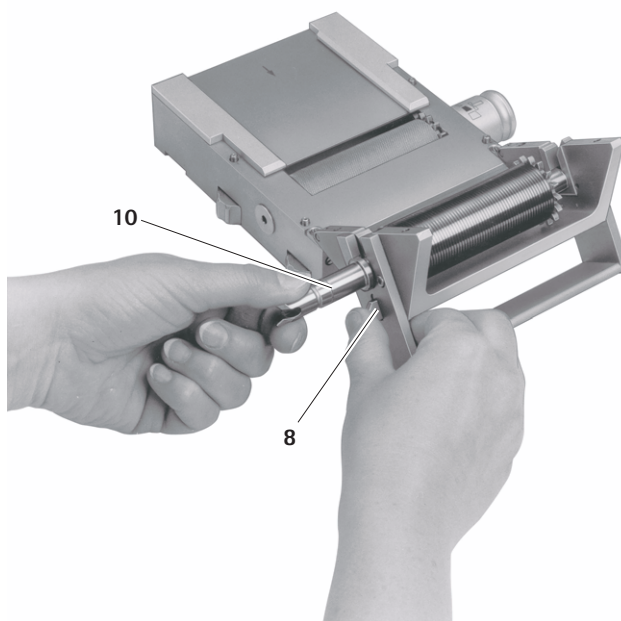

Fig. 3
- ▶ Hold down lock 8 and, at the same time, pull at shaft 10 to decouple cutting cylinder 2, see Fig. 3.